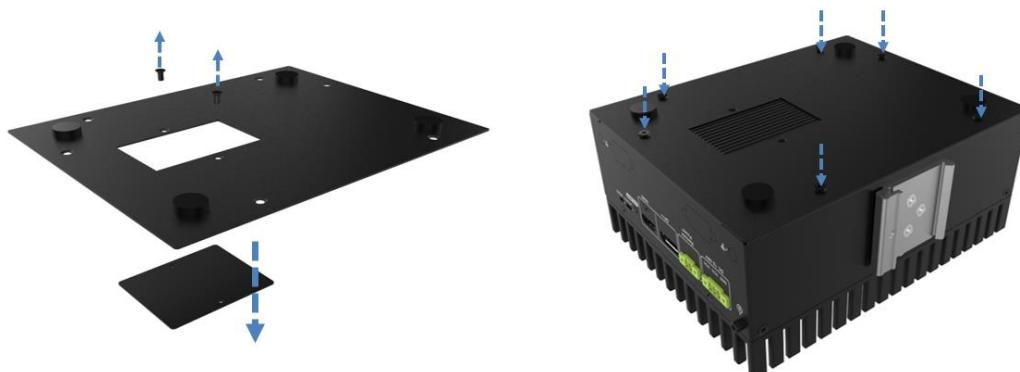

Figure 3-7: PoE Power Module Installation
Step 3: The PoE power module comes with a heat sink, so you need to uncover the opening reserved for the heat sink before re-installing the back cover. Remove the two retention screws to uncover the opening on the back cover, and then re-install the back cover using 6 retention screws (**Figure 3-7**).